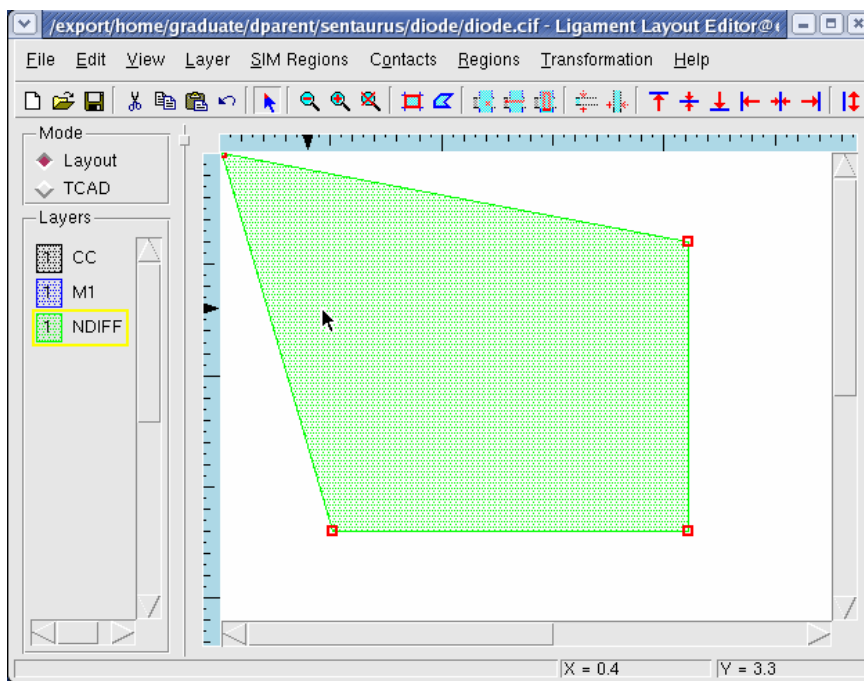

Figure 20: Results of the edit. (Results will vary.)
8. Double click the upper left hand corner of the rectangle and edit its value to **0,4** (Figure 19Figure 20). The corner is moved according to (Figure 20).